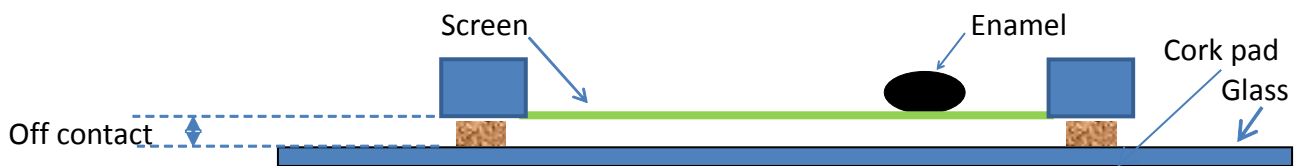

Figure 1 : preparation of screen before printing
- Put the screen with the frame on the top direction (Figure 1)